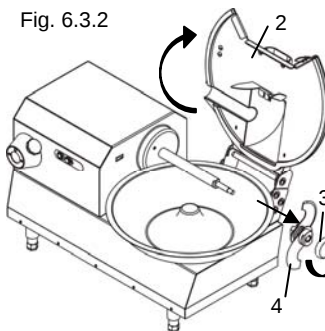

Fig. 6.3.2
- Raise the lid "2" (Fig. 6.3.2) and extract it from its seat.
- Raise the lid "2" (Fig. 6.3.2).
- Turn the lock knob of the blade holder "3" (Fig. 6.3.2).
- Remove the blade holder "4" (Fig. 6.3.2) from the shaft